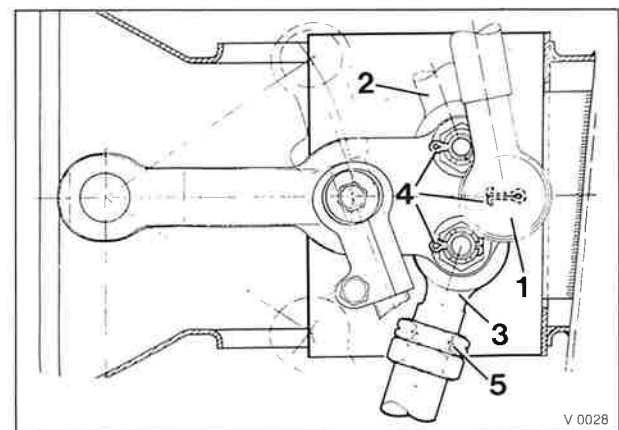

Fig. 4
- 4 Insert ball joint of track rod (4/2) into drag link arm. Split pin hole (4/4) must be situated parallel to the drag link arm longitudinal axis. Attach crown nut. Tighten ball joint of drag link as well as ball joint of track rod with ring spanner socket size 22 special tool pos. no. 905.3.45.501.2 and torque spanner special tool pos. no. 001.589 66 21 00 to 80 Nm (5) and attach split pin acc. to fig. 4.